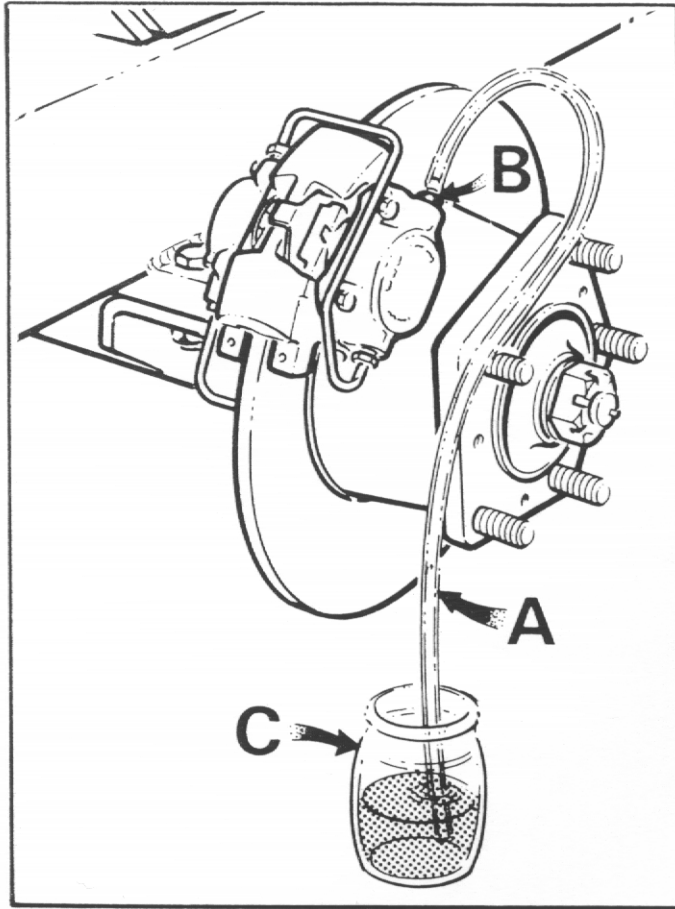

FIG. 7
3. Attach bleeder tube (A) (See fig.7) to one of the bleed screws (B) and immerse other end in a small quantity of brake fluid contained in a glass jar (C). Slacken bleed screw and operate brake pedal up and down to its full stroke until fluid pumped into the jar contains no air bubbles. Hold down pedal and close bleed screw. Remove bleeder tube and release pedal.